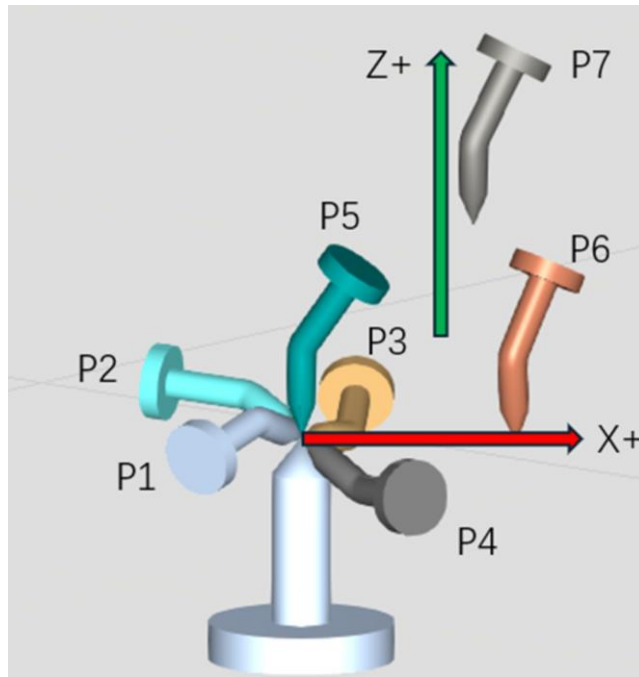

Fig. 2.12 7P Setting of Tool Coordinate Poses
The 7P method is adopted to set the tool coordinate poses as shown in Fig. 2.12. The control poses P1-P5 should always contact with the sharp points of the calibrator and the poses of P1-P4 should be as different as possible. When teaching P5, the end of the tool must be linear with the calibrator. P6 is used to determine the direction of tool coordinate X and P7 to determine the direction of tool coordinate Z. During teaching, P7 can move a distance towards tool coordinate Z based on P6.
4. Teach 7 poses in sequence according to the requirements of Fig. 2.12.
4P setting steps: Enter the tool coordinate system setting interface, select the 4P method and teach P1-P4 in Fig. 2.12 according to the pose requirements. Please refer to the 7P method for specific operating steps.